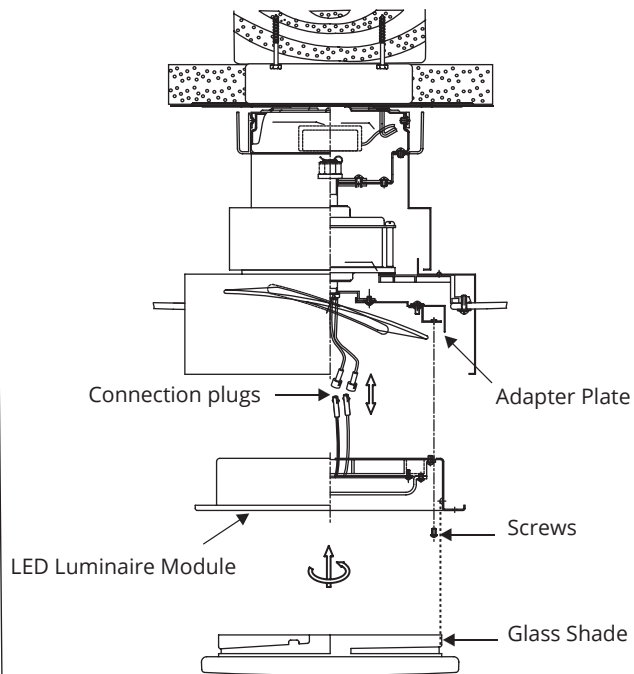

FIGURE 16
2. Raise and hold the LED luminaire module close to the adapter plate and proceed to secure the wire connections. Connect the white wire connectors from the luminaire module to the white wire of the fan. Follow the same procedure with the black wire connectors. (Fig. 16)
3. Tuck connections neatly into mounting plate, Place the luminaire module key holes over the 2 screws previously loosened from the mounting ring, turn luminaire module until it locks in place at the narrow section of the key holes. Secure by tightening the 2 screws previously loosened and the one previously removed. (Fig. 16)